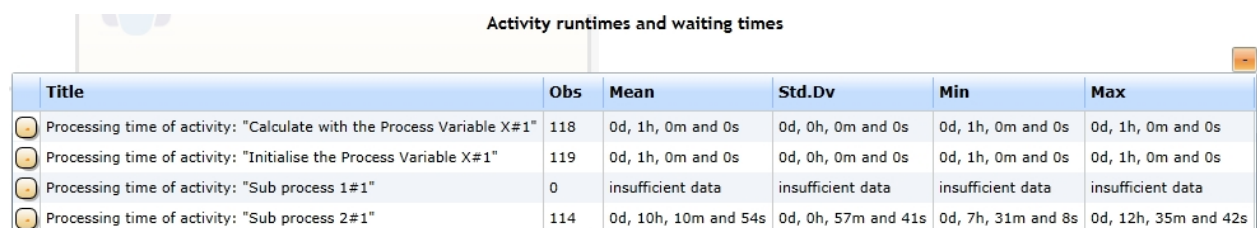

Figure 2: The report's activity run-times
- Also if you look at Figure 2 further below, you will notice that the activity "Sub process 1#1" has never been reached